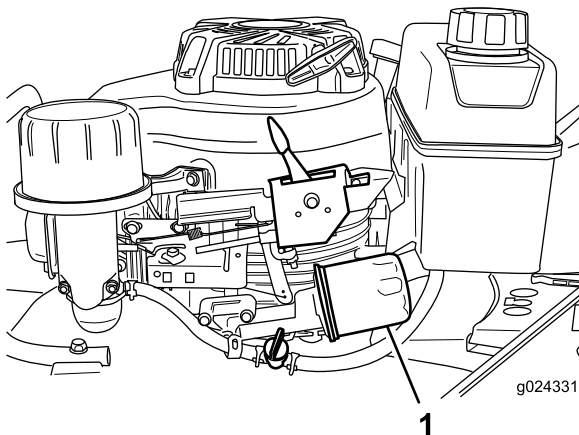

Figure 20
6. Place a rag under the oil filter (Figure 20) to catch any oil that may leak out as you remove the oil filter.